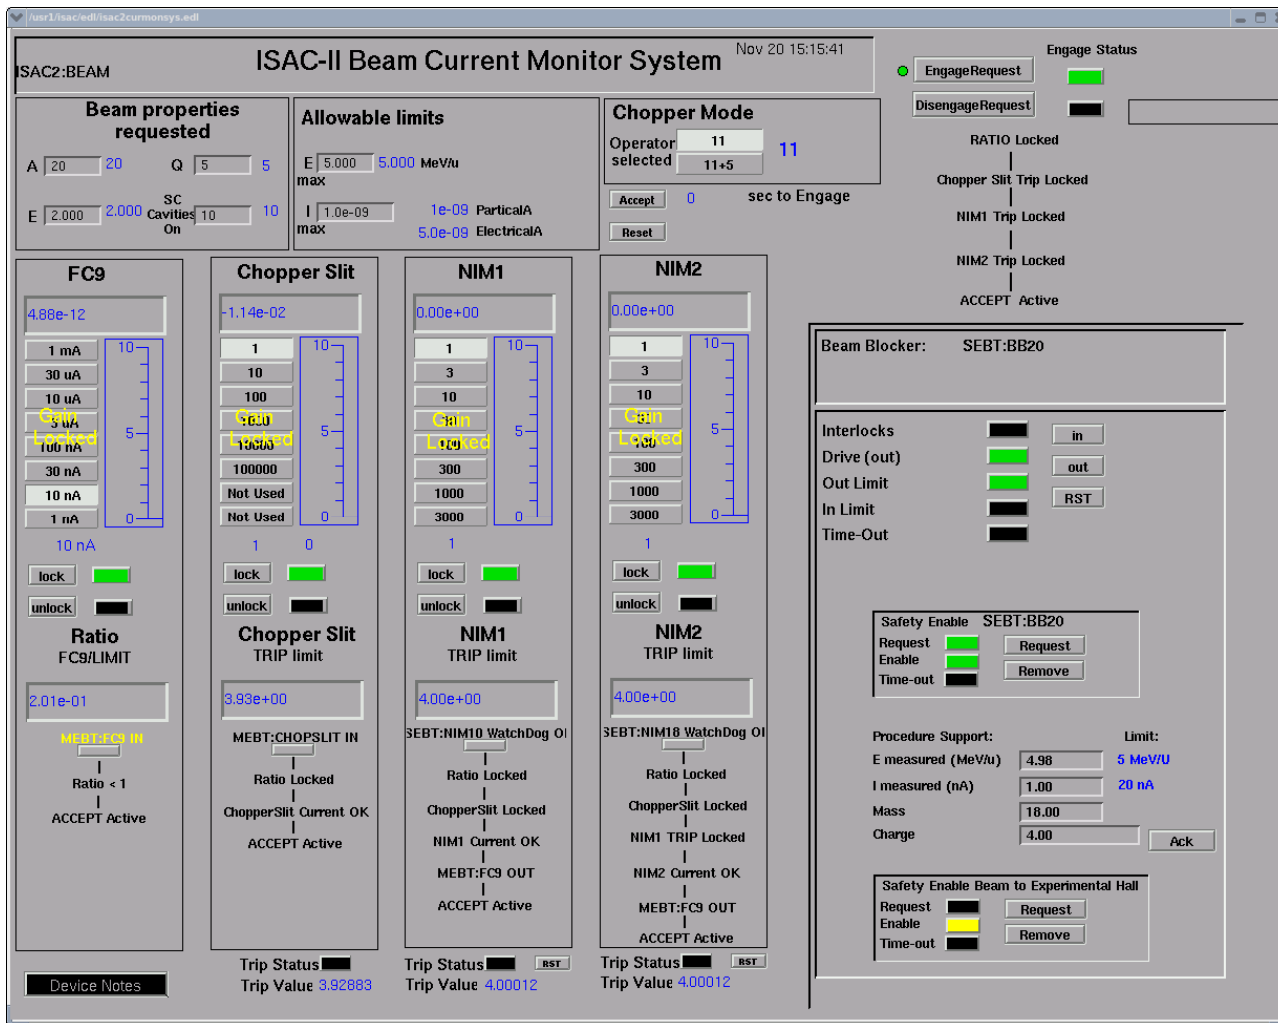

Figure 4. ISAC Current Monitor System EPICS interface after engaging the system.
14. Press the **Engage Request** button. Wait 10 seconds. If the request is accepted, the SEBT:BB20 EPICS device page will be displayed (see Figure 4) and a GO signal will be supplied to the Safety System. The 5 minute timer will stop counting.